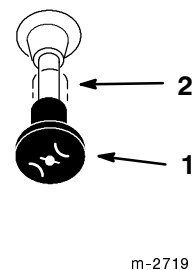

Figure 10
7. After the engine starts, gradually move the choke to “OFF” (Fig. 10). If the engine stalls or hesitates, move the choke back to “ON” for a few seconds. Then move the throttle lever to desired setting. Repeat this as required.